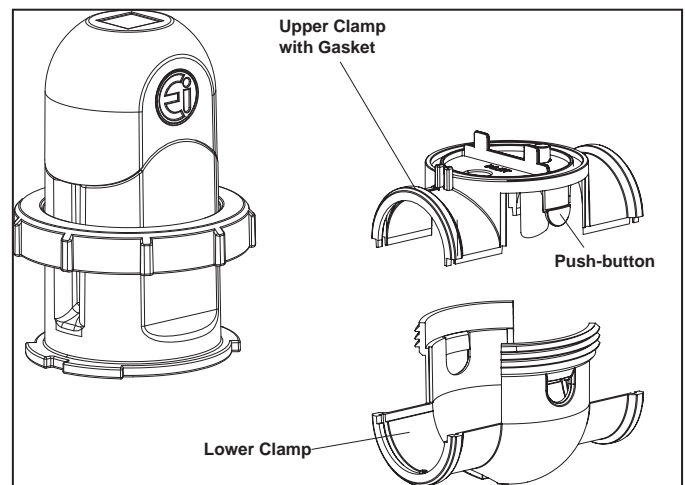

Figure 5. Disassemble Cell
5. Unscrew the locking ring from the cell in order to extract it from the upper clamp (see Figure 5).
6. Press the two (2) push-buttons on either side of the upper clamp to separate the upper clamp from the lower clamp (see Figure 5).